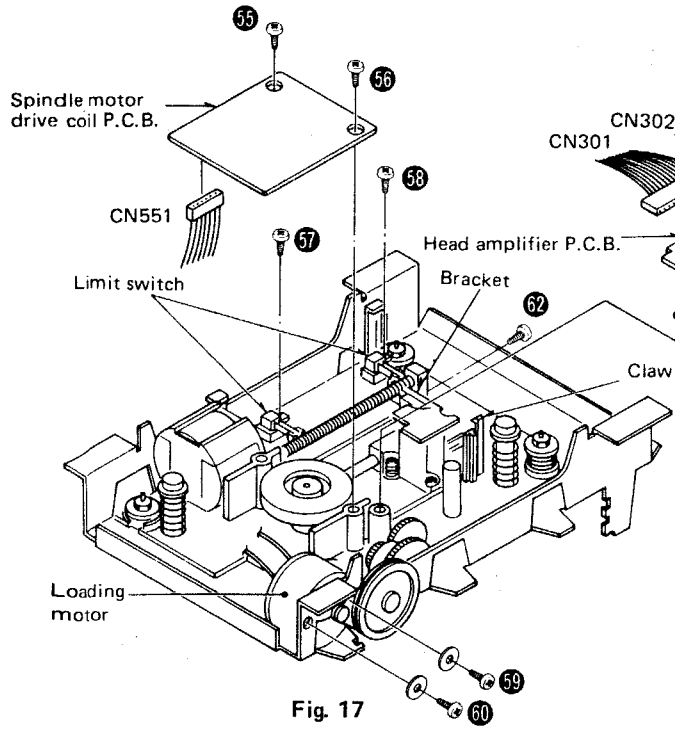

Fig. 17
2. Turn over the traverse unit and remove the head amplifier setscrew [Fig. 17: 54].
5. Remove the 2 setscrews [Fig. 17: 55, 56] of spindle motor drive coil P.C.B.
2. Remove the 2 setscrews [Fig. 17: 57, 58] of limit switch, and unsolder the limit switch.
3. Remove the 2 setscrews [Fig. 17: 59 , 60] of loading motor, and unsolder the motor leads.
4. Remove the bracket setscrew [Fig. 17: 62] of pickup to remove the bracket.